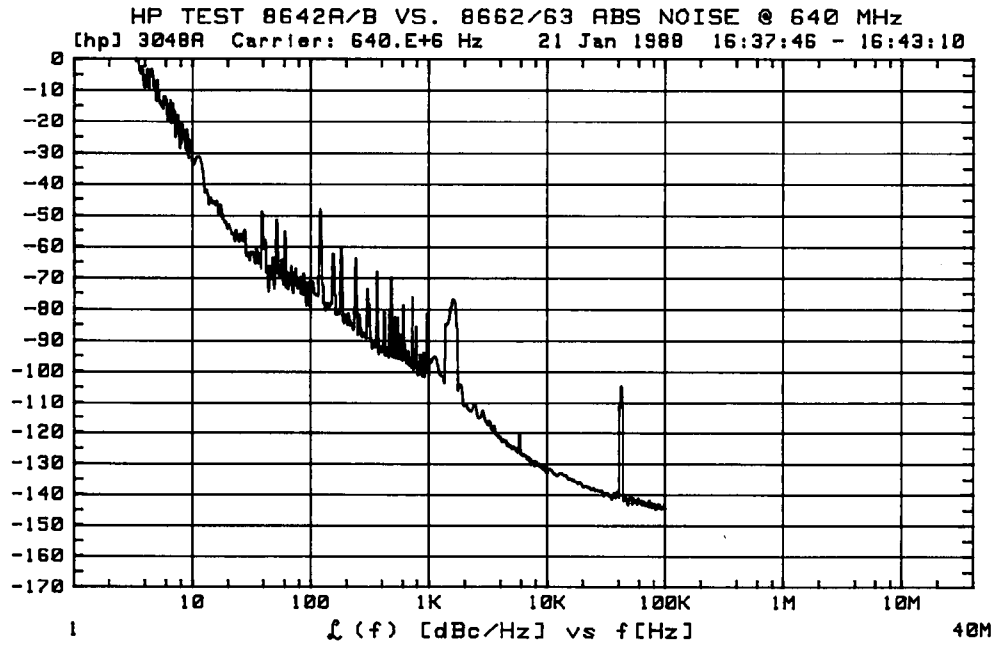

Figure 38. Typical Spectral Purity Tests Results with HP 8662A Reference Source
8. Press the **Proceed** softkey. The measurement should proceed automatically without error messages. If the reference source is an HP 8662A Option 003 or HP 8663A Option 003, the measured noise should be similar to that shown in Figure 38 and should be less than -134 dBc at 20 kHz offset or -144 dBc at 100 or 200 kHz offset. If the reference source is an HP 8642A or HP 8642B, subtract 3 dB from the measurement results; the limits should then be as previously stated.